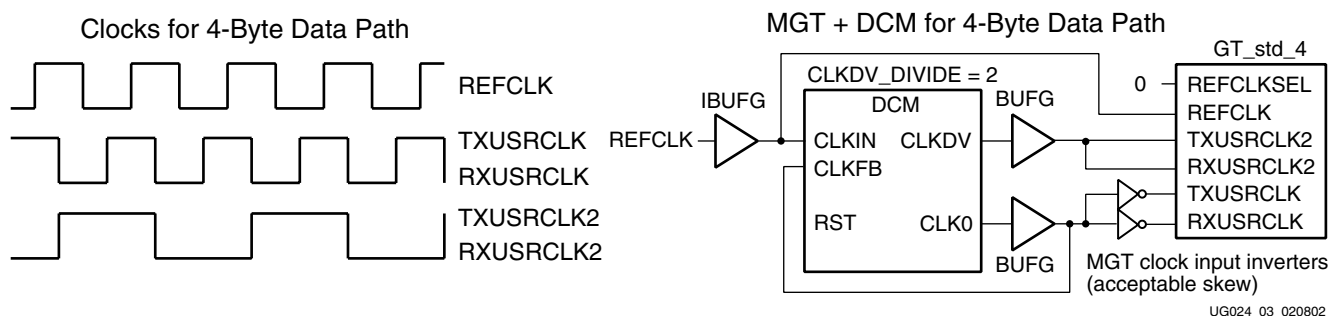

Figure 3-2: Four-Byte Clock
The DCM example (Figure 3-2) is detailed for a 4-byte data path. If 3.125 Gb/s is required, the REFCLK is 156 MHz and the USRCLK2\_M only runs at 78 MHz including the clocking for any interface logic. Both USRCLK and USRCLK2 are aligned on the falling edge, since USRCLK\_M is 180° out of phase when using local inverters with the transceiver.
**NOTE:** These local MGT clock input inverters, shown and noted in Figure 3-2, are *not* included in the FOUR\_BYTE\_CLK templates.